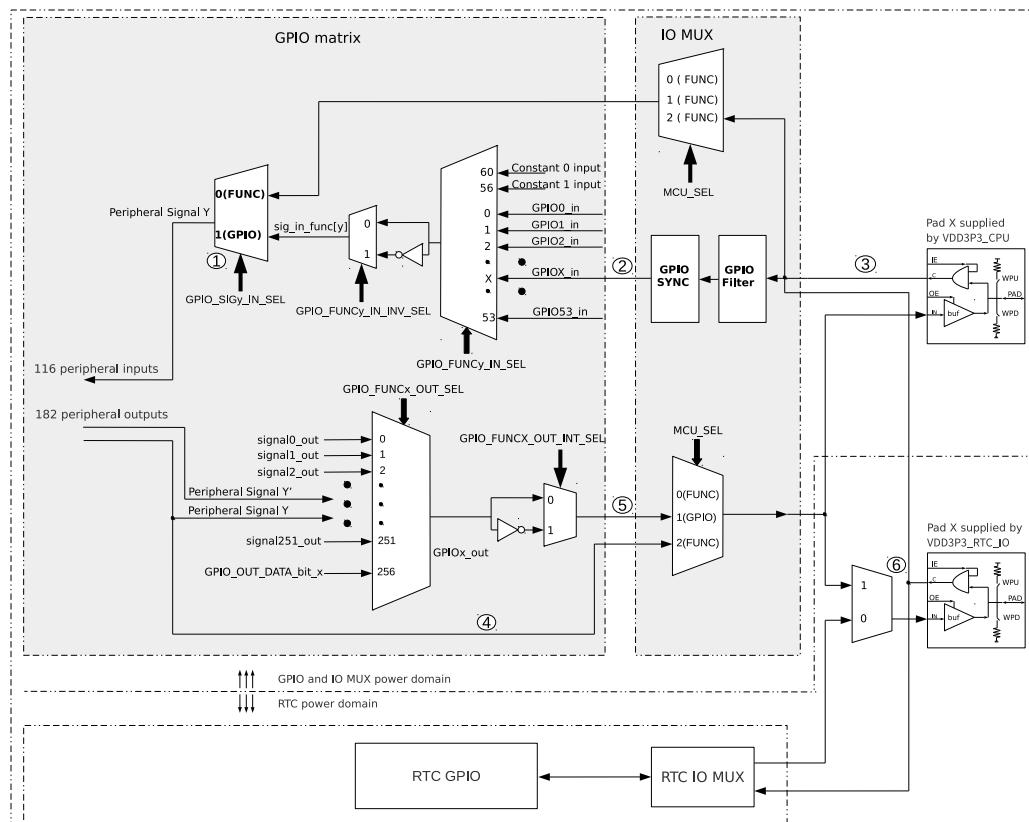

Figure 5-1. IO MUX, RTC IO MUX and GPIO Matrix Overview
Figure 5-1 shows the overview of IO MUX, RTC IO MUX and GPIO matrix.
**Note that** some peripheral signals have no valid `GPIO_SIG $y$ _IN_SEL` bit, namely, there is no MUX module in Figure 5-1 for these signals (see note 1 below Figure 5-1). These peripherals can only receive input signals via GPIO matrix.
Some of the 182 output signals can be set to go through GPIO matrix into IO MUX and then to a pad. Figure 5-1 illustrates the configuration.